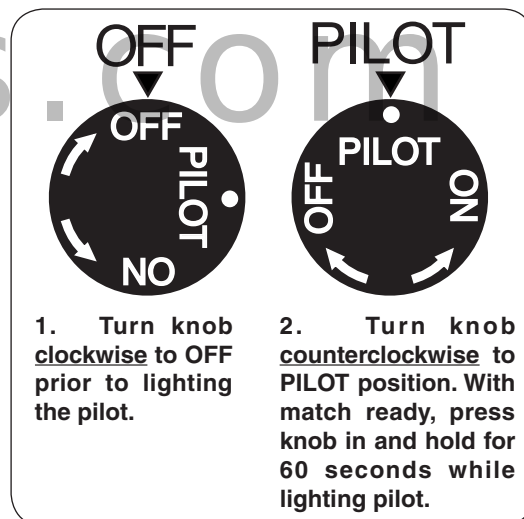

Fig. 23-1 Control knob detail (OFF, PILOT)
- 1.** Locate the valve on the side of the unit. Push in the gas control knob slightly and turn clockwise to **OFF** (Fig. 23-1).
- 2.** Turn the control knob counterclockwise to **PILOT** (Fig. 23-1). Push the control knob **firmly and fully** in and hold. Hold a long fireplace match or lighter near the thermocouple to light the pilot. Continue to hold the control knob in for approximately 60 seconds after the pilot is lit, then release the knob. The pilot will remain lit.